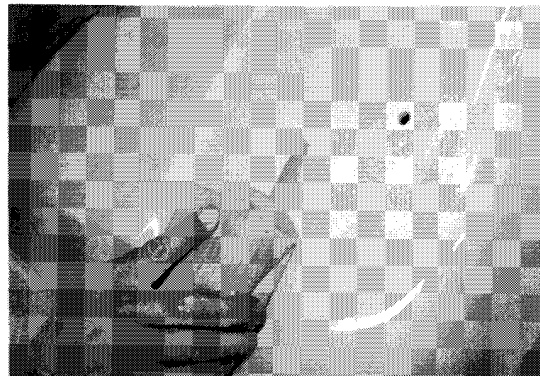

Figure 5-7
6. Sand final filler application by hand with 240 grit sandpaper on a block to smooth the finish (Figure 5-7).